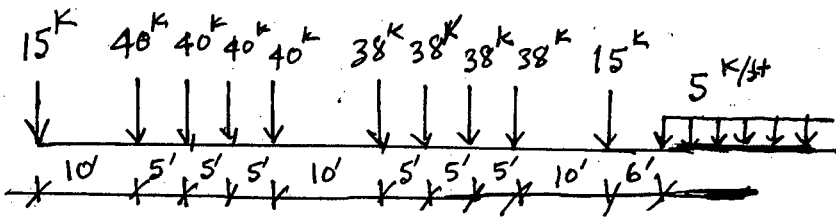

Fig. 11
11. For the wheels load shown in Fig. 11, calculate maximum shear at one-third point from left in a simple supported beam of span 75 ft. (21)
12. (a) Derive general cable theorem. (8)